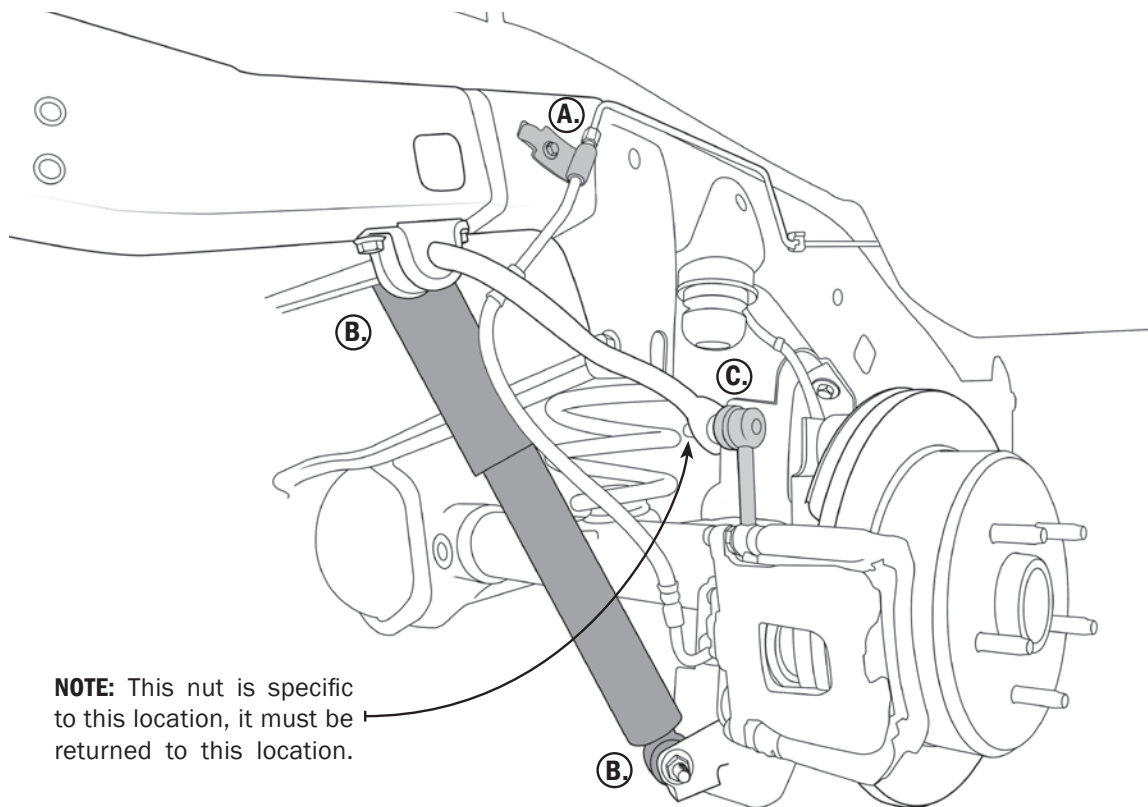
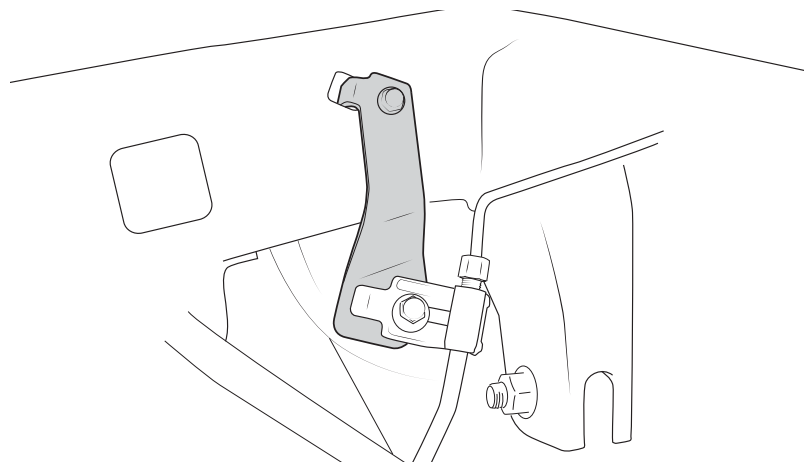

Figure 4
Figure 9
6. Remove the bolts that hold the brake lines to the frame (Fig. 4 A).
7. Remove the shocks (Fig. 4 B).
8. Remove the sway bar end links and save. You will reuse the hardware for the rear and the end links will be installed on the front of the vehicle. Note the orientation of the end links, the new end links will be installed in the same way (Fig. 4 C).
16. Install AEV sway bar end links and tighten.* Re-install lower shock nut and bolt and tighten* (refer to Fig. 4-B.) Install brake line drop brackets as shown (Fig. 9) and tighten.*